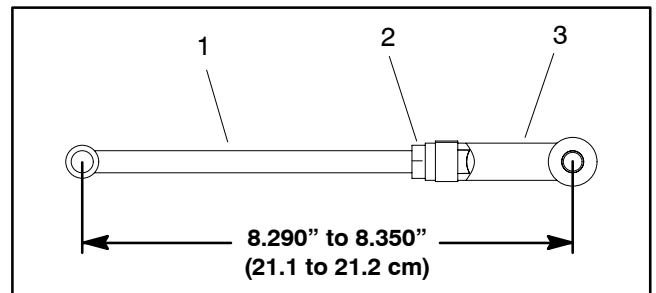
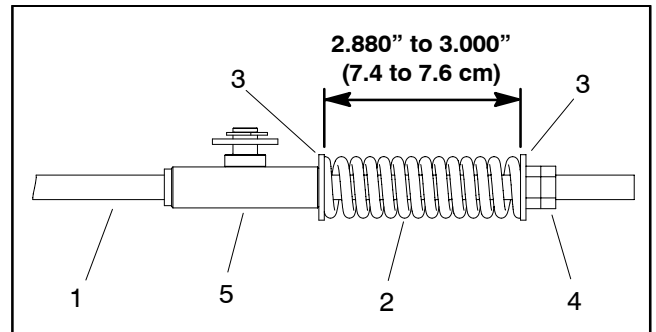

Figure 11
Figure 12
- A. If brake linkage yoke was removed from front brake rod, install yoke onto rod so that center to center length is from **8.290" to 8.350" (21.1 to 21.2 cm)** (Fig. 11).
- B. Make sure that cap screws (item 10) used to secure flange bearings (item 17) are installed from the outside of the frame to the inside.
2. After assembly of brake system, apply parking brake and check length of compression spring on rear brake rod. Spring length with brake applied should be from **2.880" to 3.000" (7.4 to 7.6 cm)** (Fig. 12). If necessary, adjust spring length with hex nuts on rear of brake rod.